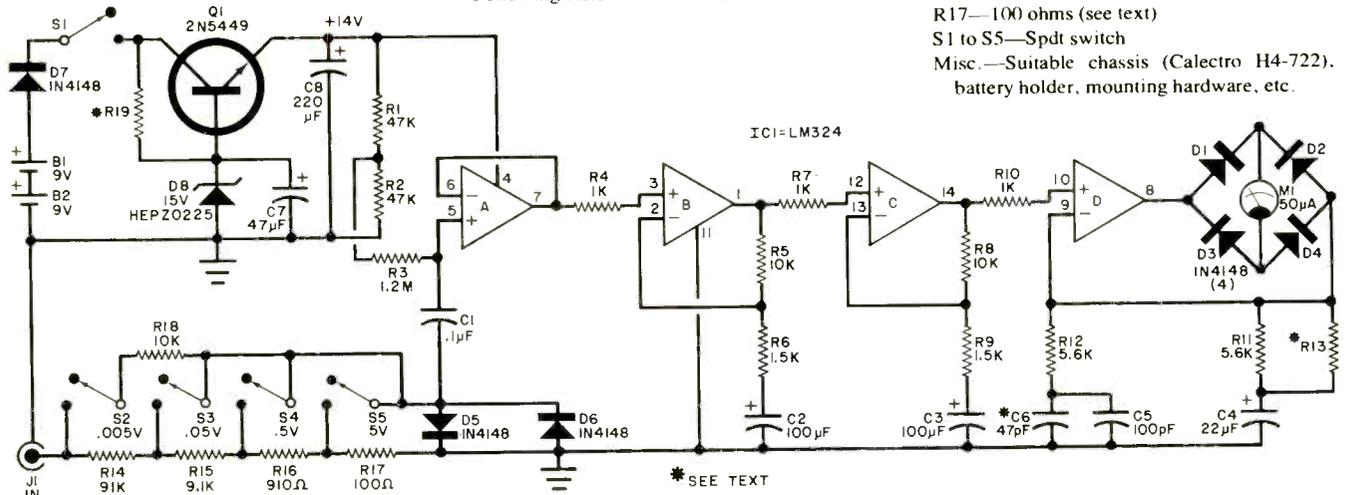

Fig. 1. The first three op amps in IC1 form a sensitive ac amplifier and the fourth drives the meter.
**Circuit Operation.** The circuit made up of transistor *Q1*, *R19*, *C7*, and *D8* is a regulated power supply which provides 14 volts for *IC1* (Fig. 1). Due to the presence of *C7*, the supply turns on slowly to prevent capacitor charging currents on *C2*, *C3*, and *C4* from damaging the meter. Diode *D7* protects the circuit from an accidental reversal of battery polarity.
Fig. 3. To add a 50-volt range to the Audio Detective use either a rotary or discrete switches as shown here. Note the changes in the bottom two resistors as compared to Fig. 1.
**Modifications.** The schematic in Fig. 1 shows the input attenuator spanning four ranges from 0.005 to 5 volts. If you want to extend the upper limit, use the attenuator shown in Fig. 3. Two versions are shown—one using five slide switches and one a rotary switch. Either will extend the range to 50 volts. ♦
**How It Works.** Battery *B1* (Fig. 1) gets a constant trickle charge from the transformer through *D1* and *R1*. As shown here, the battery is made up of two 1.25-V NiCd cells. Sealed NiCd or lead-acid storage cells with higher voltage ratings could be used. Vented secondary batteries can be used if the electrolyte is checked every few months. If carbon-zinc or manganese-alkaline cells are used, the value of *R1* should be increased to 47,000 ohms. Remember also that manganese-alkaline and mercury cells may burst when recharged.
Fig. 1. The two-transistor audio oscillator is inoperable until the SCR conducts. This occurs when the power line fails and the battery voltage is applied to the SCR gate. Do not use an on-off switch with the unit.